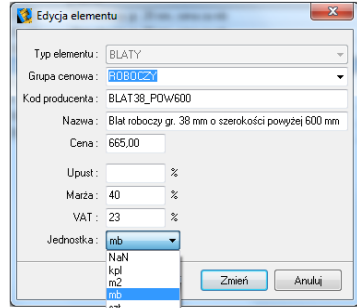

Fig. 316 – editing item's details
- edits the selected element in the price-list (Fig. 316);